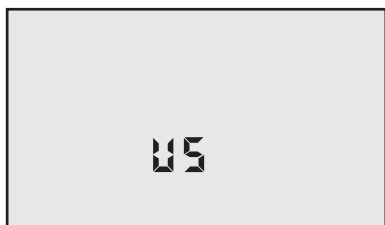

Figure 16
3. Press  to change. Display will now indicate other format (see Figures 16 & 17).
4. Press any measurement key or allow to automatically turn off. (see Figures 16 & 17)